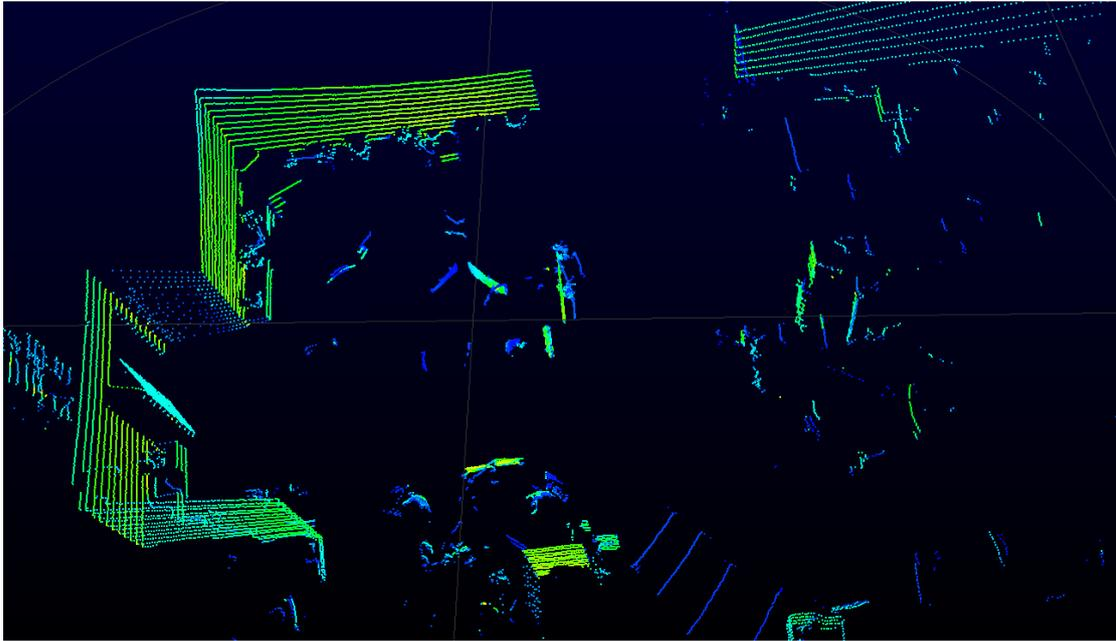

Figure C-3 RS-Helios-16P Data Streaming in RSVIEW
5. RSView begins displaying the data stream (Figure C-3). The streaming can be paused by pressing the **Play** button, pressing again, the streaming resumes.